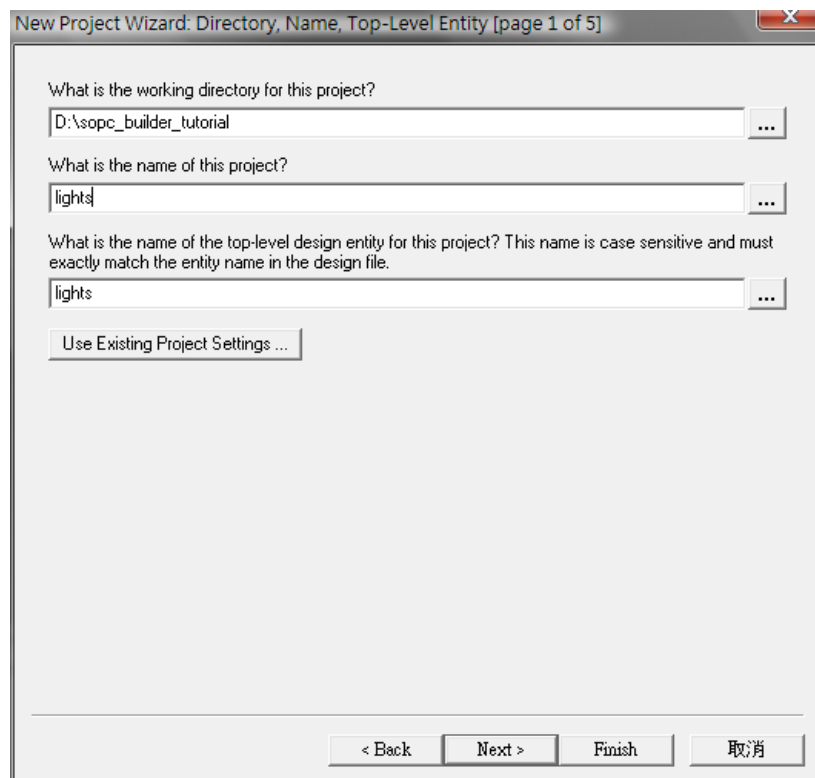

Figure 3.Create a new project.
1. Create a new Quartus II project for your system. As shown in Figure 3, we stored our project in a directory called `sopc_builder_tutorial`, and we assigned the name `lights` to both the project and its top-level design entity. You can choose a different directory or project name, but be aware that the SOPC Builder software does not permit the use of spaces in file names. For example, an attempt to use a directory name `sopc builder tutorial` would lead to an error. In your project, choose the EP4CE115F29C7 chip as the target device, because this is the FPGA on the DE2-115 board.